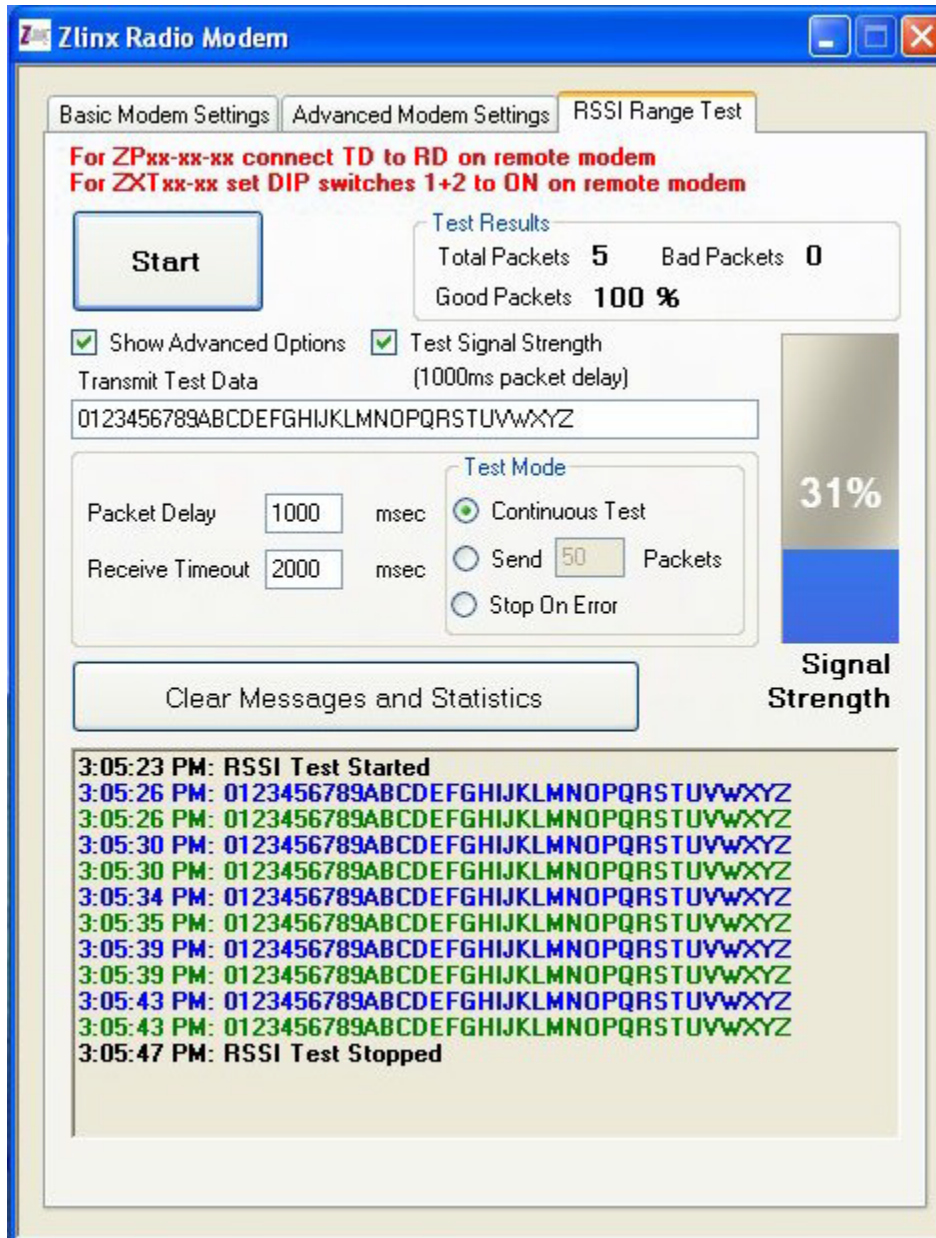

Figure 14. RSSI Range Test Results
15. Click on the Start box in the upper left corner of the window. The RSSI Range Test will start and be displayed (Figure 14).